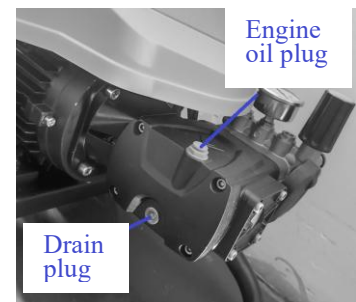

Fig. 2
- Connect the garden hose to the water inlet port (6). Refer to Table 1 for the correct water inlet thread dimensions.
- Squeeze the trigger (14) on the spray gun several times to release any trapped air from the pump and hose system.
- Plug the unit securely into the electrical mains socket. Switch the power switch (2) to the ON position.
- Pull the trigger (14) to start the pump and begin operation.
- Check the engine oil level through the oil level window (15).
- To drain old engine oil, place a suitable oil collection container beneath the drain point, remove the drain plug, and carefully tilt the machine to ensure all oil flows out completely. See Fig. 2.